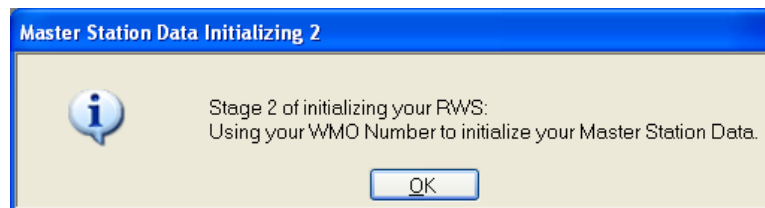

Figure B-16: Master Station Data Initializing 2 Window
3. Click **OK** to dismiss the warning window. RWS will open with the *Master Station Data Initializing 2* window to indicate the Station WMO Number was used to initialize Master Station Data (Figure B-16).